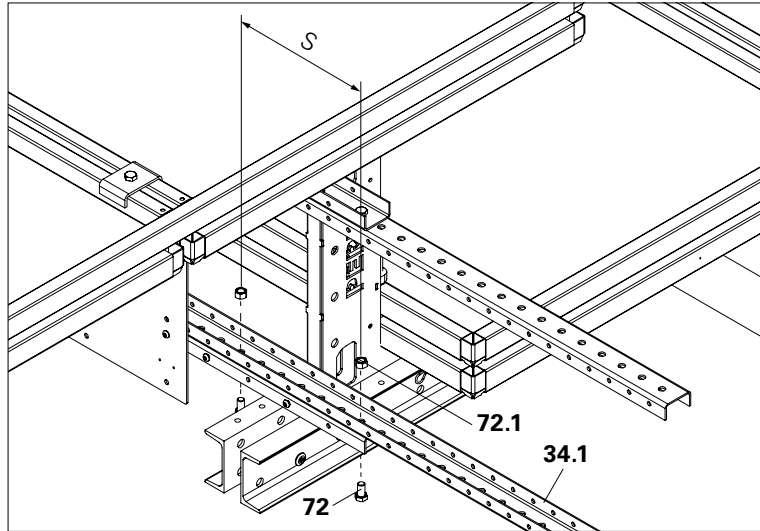

Fig. C2.01
1. Attach Platform Beam LPS 173 (34.1) laterally to the available platform beam using Bolts 4017 M16x40-8.8 (72) and Nuts ISO 7040 M16-8 (72.1). Distance  $S \geq 250$  mm (Fig. C2.01)